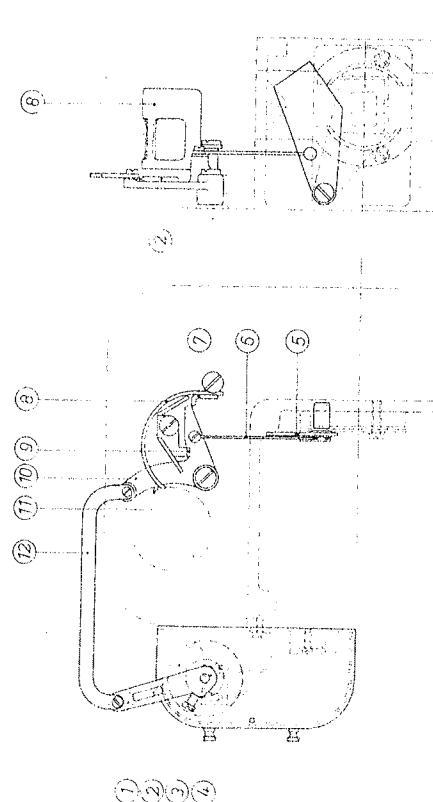

Fig. 33
The film-rupture device (fig. 33) consists of a light cut-off, a system of levers and brackets and two mercury switches. The latter are housed in the connection box at the rear of the projector.
- For mounting the device see fig. 33. Electrical connections: see pages AA-17 to AA-23.